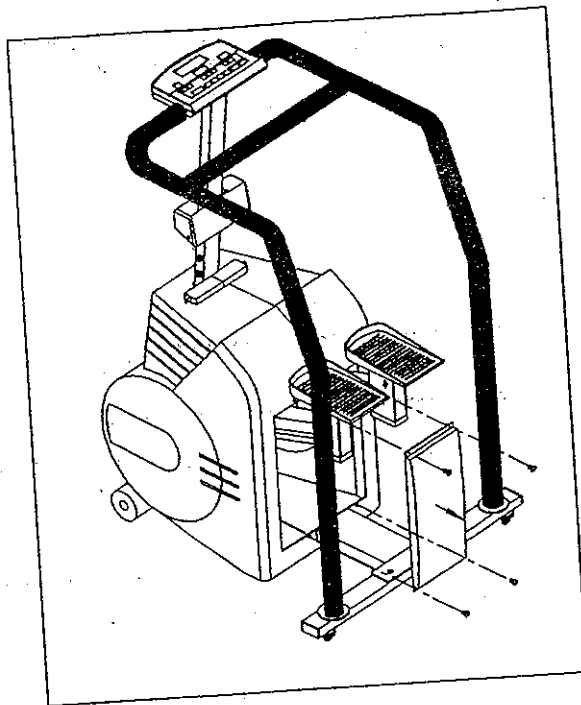

Fig. 4
3. Remove the four screws securing the front cover. (see Fig. 4).